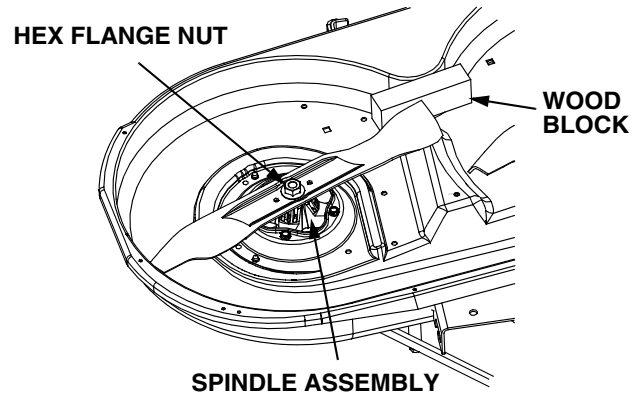

Figure 34
- Use a 15/16 inch wrench to hold the hex nut on top of the spindle assembly when loosening the hex nut securing the blade. A block of wood may be placed between the deck housing and the cutting edge of the blade to help in breaking loose the hex nut securing the blade. Refer to Figure 34.